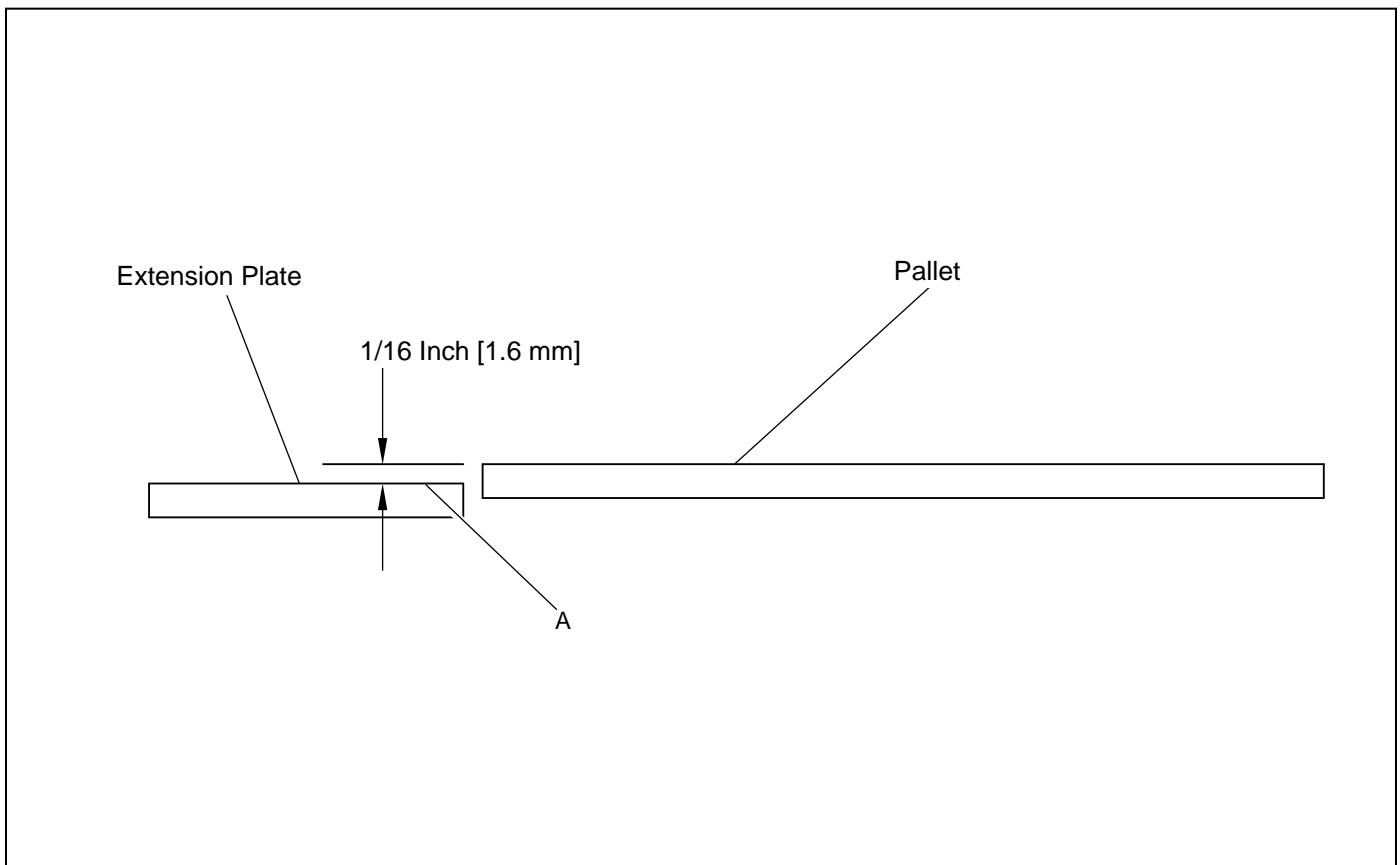

Figure 1.1 Installation
3. Place an empty pallet on the conveyor. Adjust the depalleter up or down until the pallet is approximately 1/16 inch [1.6 mm] higher than the wear plate (Figure 1.1).